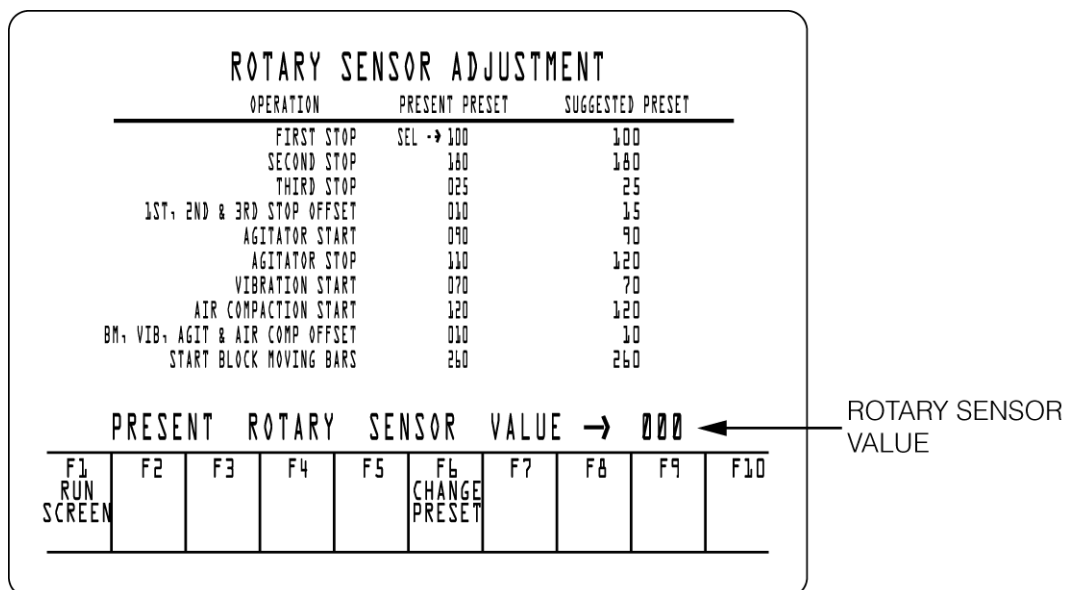
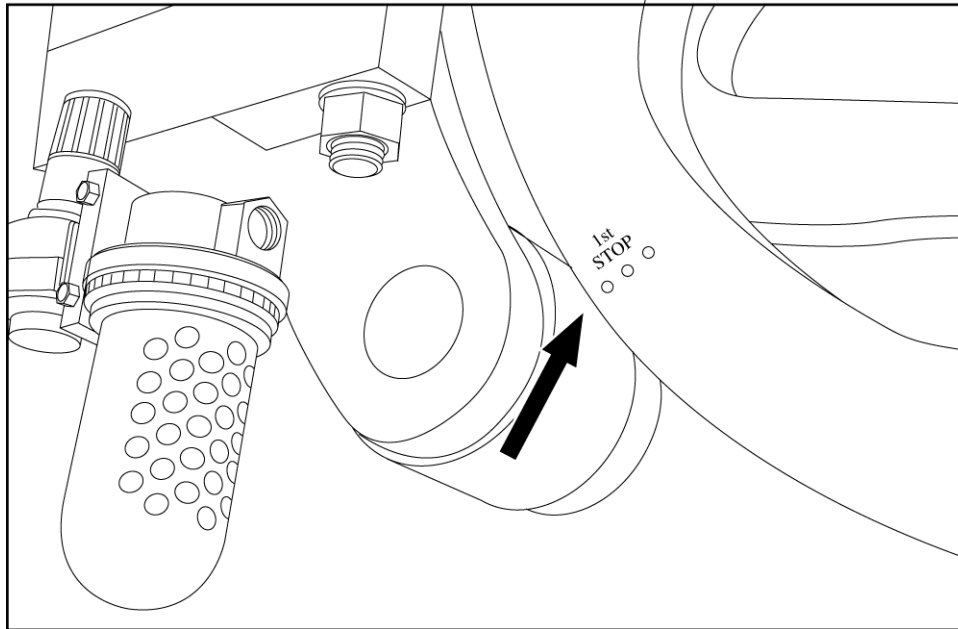

Figure 7.1 ROTARY SENSOR ADJUSTMENT SCREEN
Figure 7.2 "FIRST STOP" (R.H. SIDE OF MACHINE)
1. As an initial condition, cycle the machine to the “first stop” position “First stop” is obtained when the punch marks on the cam are in line with the roller.(see figure 7.2). In this position, the feedbox should be all the way forward and the roller should be centered on the first stop mark of the pallet receiver cam. At this point, the “Rotary sensor value” should be indicating 1000 on the rotary sensor adjustment screen (see figure 7.1, for more details see section 10.4). To reach this screen, press “F2” from the main menu.